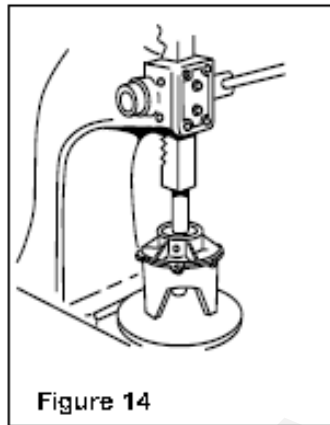

Figure 14
7. To remove the rotor with shaft from the end plate support the end plate in an end plate support fixture with the rotor down. Center the bearing disassembly tool or 3/8" bolt on pump shaft. Apply pressure to press shaft out of ball bearing (See Figure 14).